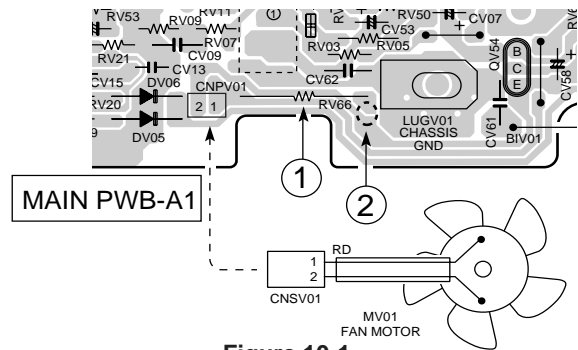

Figure 10-1
- This model is equipped with a fan. If you remove the fan to service the unit, it enters the protection mode and the power cannot be turned on by pressing the POWER button. In such a case, follow the procedure below. (Refer to Fig.10-1.)